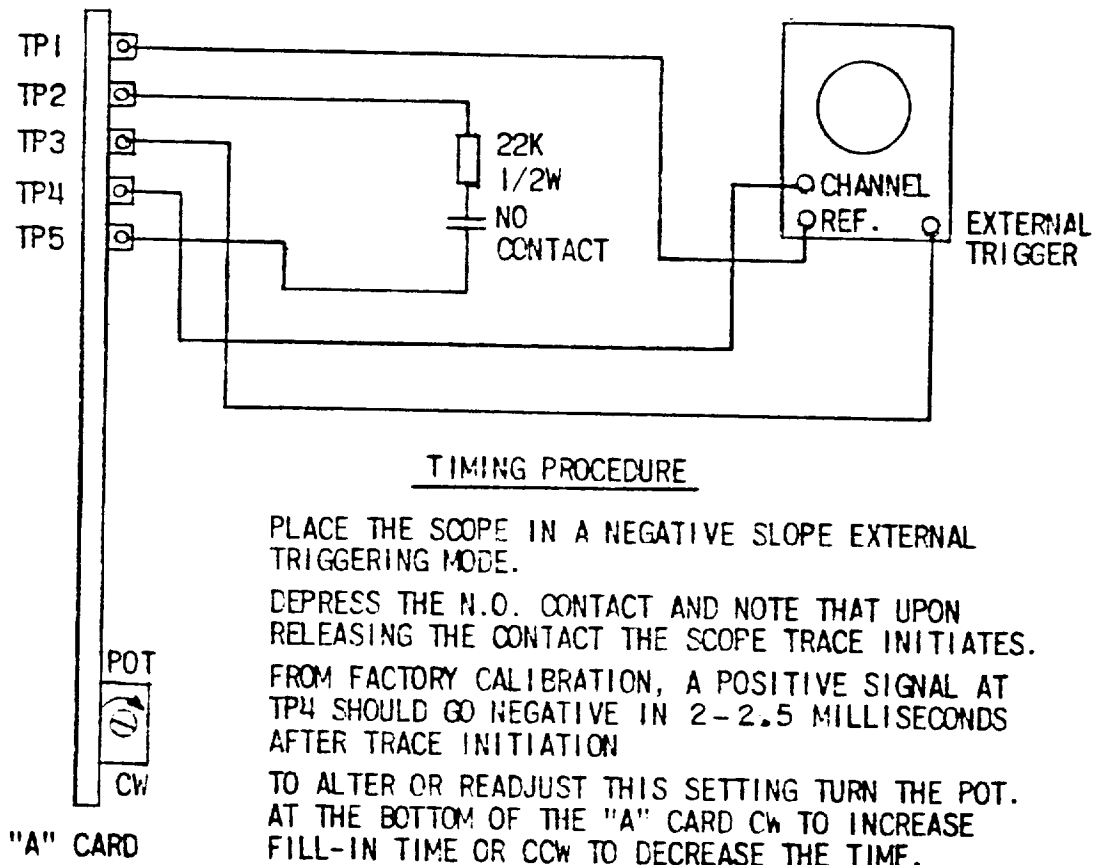

Fig. 15 (0285A6210-0) Fill-in Time Test Circuit for the SBC Relay
- Fig. 15 Fill-in Time Test Circuit for the SBC Relay